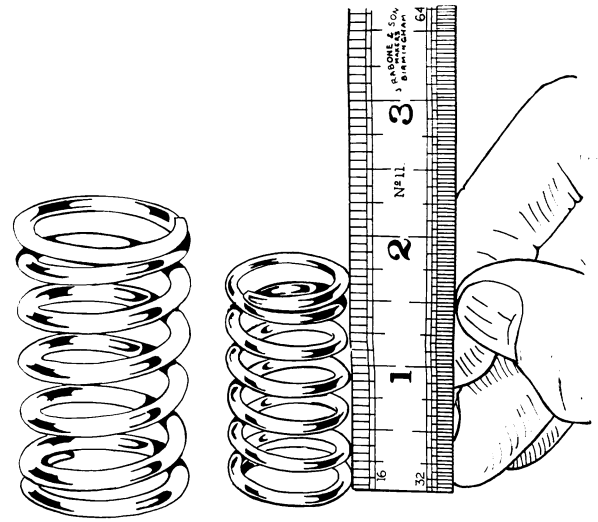

Fig. 10-15 Valve springs (Triumph Norton Incorporated)
**Valve Springs.** The valve is lifted from its seat by the positive mechanical force of the cam applied through mechanical linkage to the tip of the valve. The valve spring is the only force that returns and holds the valve in its seat. Most valve springs are the coil-spring type that are retained between the valve retainer and a valve-spring seat around the top of the valve guide. The springs shown in Fig. 10-15 are being checked for height, which is usually done when servicing the valve faces and seats.